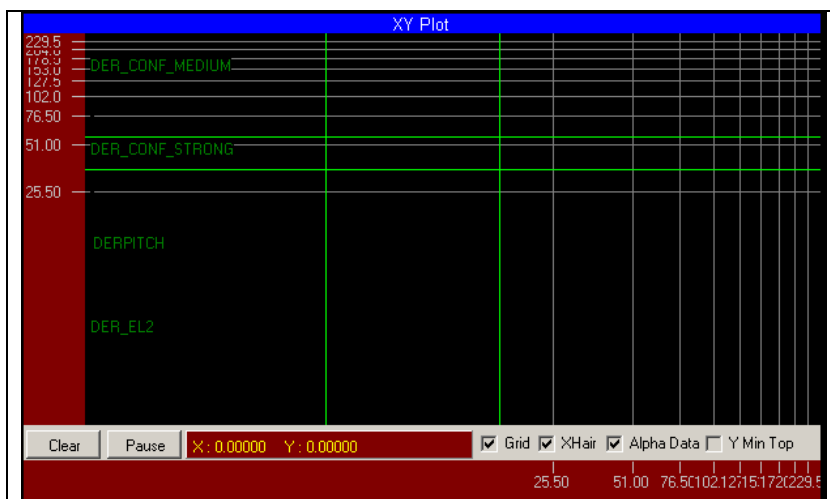

Figure 3-32 XY Plot Widget (History Plots)
The **XY Plot** display widget, shown in Figure 3-32 below, can display one or two X/Y data pairs (four individual parameters from up to twelve (12) streams, including formulas and functions). The display supports both linear and logarithmic displays.